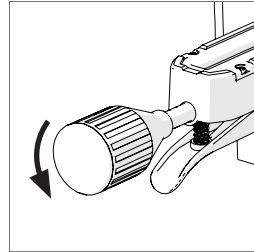

Fig. 30
- Unclamp the Mitre Handle by turning the Locking Knob anti-clockwise. **(Fig. 30)**